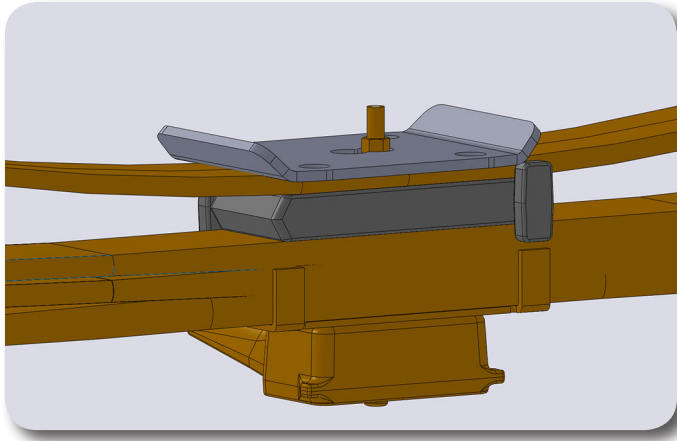

Figure 23
13. Models equipped with overload leafs will need the separation block modified. Trim the rotation tabs from the front side of block on both the inside and outside of the block. Use extreme care near the fuel tank, do not use any method that will create sparks if the block is not removed when modified. A sawzall is highly recommended. **Figure 23**